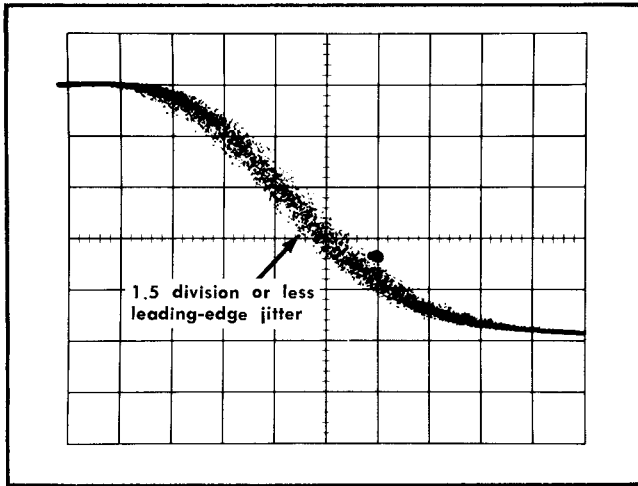

Fig. 5-6. Typical sampling system display of trigger jitter.
- c. CHECK—Rotate the MULTIPLIER control throughout its range and check for 1.5 division or less jitter in the leading edge of the waveform (300 picoseconds or less; see Fig. 5-6).